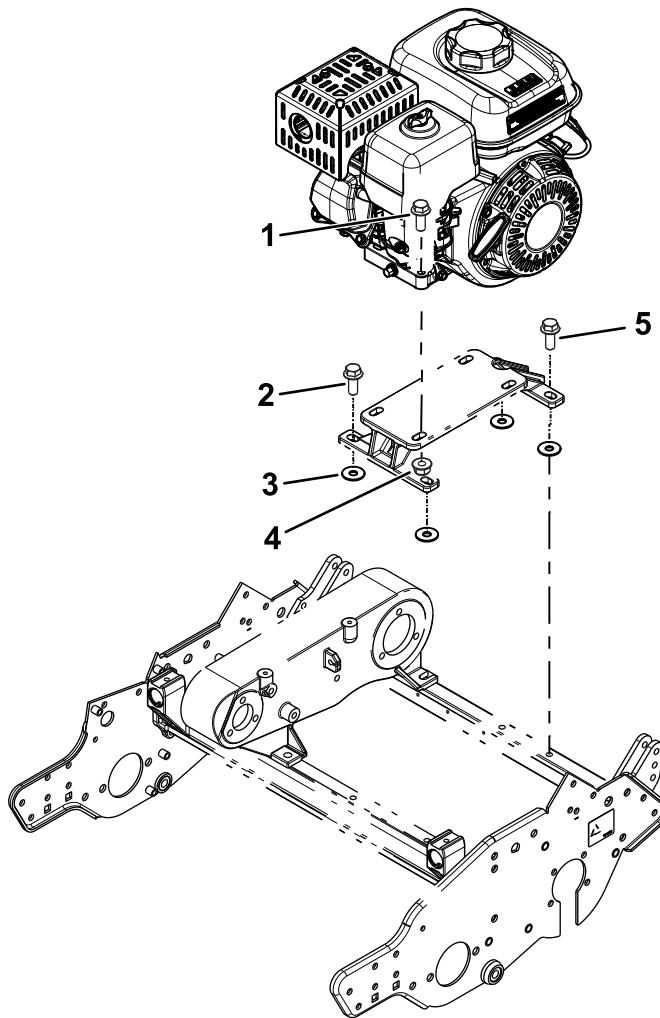
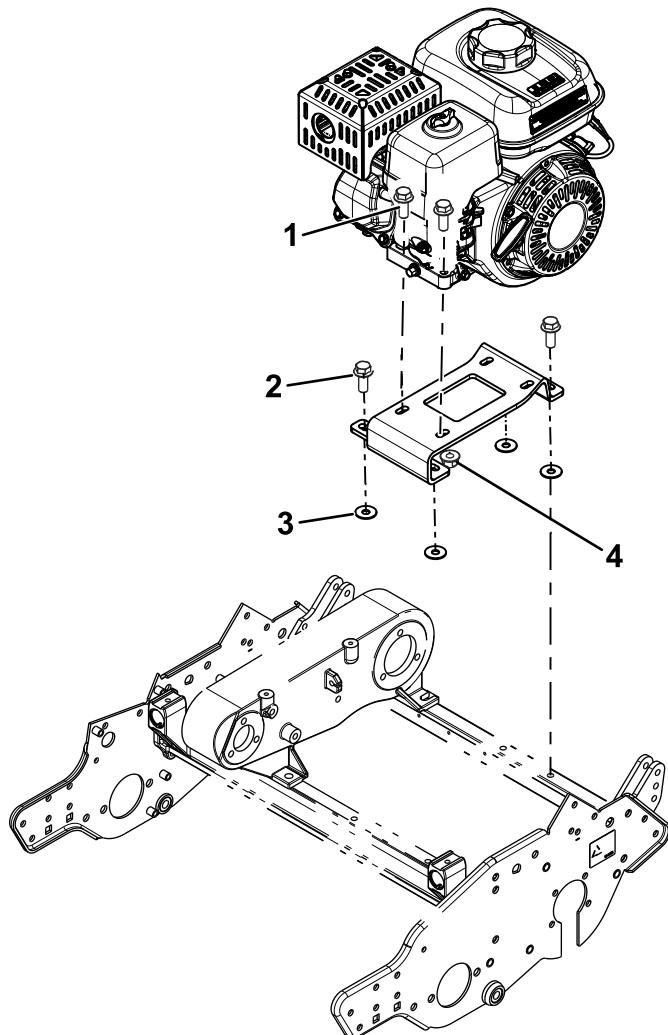

Figure 4
Figure 5
3. For model year 2012 to 2014: Install the previously removed engine-mounting bracket to the machine with the previously-removed bolts and 4 washers (3/8 x 1-1/8 inch) as shown in Figure 4.
Loosely install the rear left engine bolt (shown in Figure 4).
4. For model year 2008 to 2011: Install the engine-mounting bracket supplied with this kit to the machine with the previously-removed bolts and 4 washers (3/8 x 1-1/8 inch) as shown in Figure 5.
Loosely install the front left engine bolt (shown in Figure 5).
| 5. Mount the engine onto the engine-mounting bracket using the previously-removed bolts and nuts (Figure 4 and Figure 5). | |
15. For model year 2012 to 2014: Remove the rear left bolt from the engine base (Figure 4) and use the bolt to secure the R-clamp and throttle cable to the engine base.
16. For model year 2008 to 2011: Remove the front left bolt from the engine base (Figure 5) and use the bolt to secure the R-clamp and throttle cable to the engine base.
18. Tighten all of the engine mounting and engine-mounting bracket bolts (Figure 4).